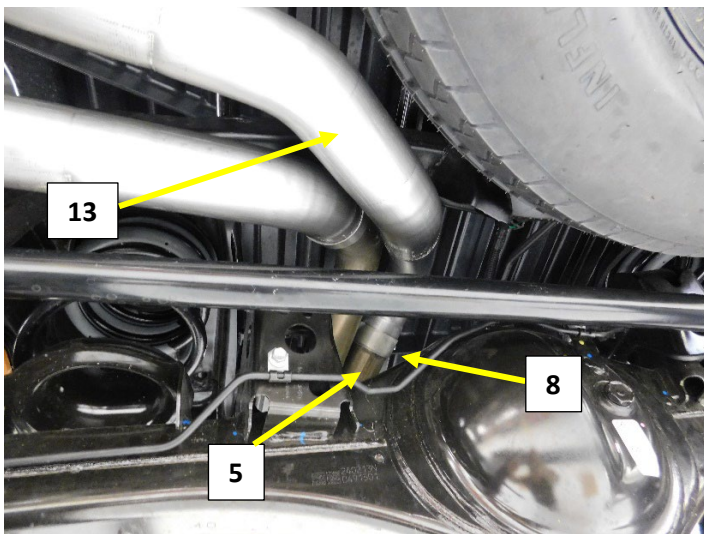

Figure.16
13. Install a 2.5" band clamp (8) on to the expanded end of the right tail pipe (13). Position the clamp (8) with the bolt at the top of the pipe and the nut facing the right frame rail when installed on to the right muffler outlet pipe (5). **Fig.16**